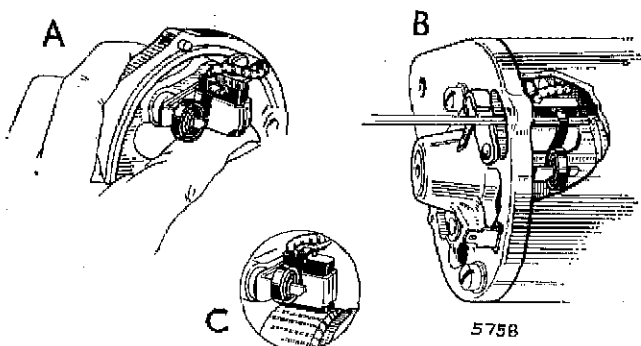

Fig. 4. Assembling end bracket and brushes to generator
1. Lift the brushes up into the brush boxes and secure them in that position by placing the brush springs against the sides of the brushes as shown in Fig. 4(A).
5. Insert a thin screwdriver through the ventilator holes adjacent to the brush boxes and gently lever the spring arms until the brushes locate correctly on the commutator (see "B", Fig. 4).